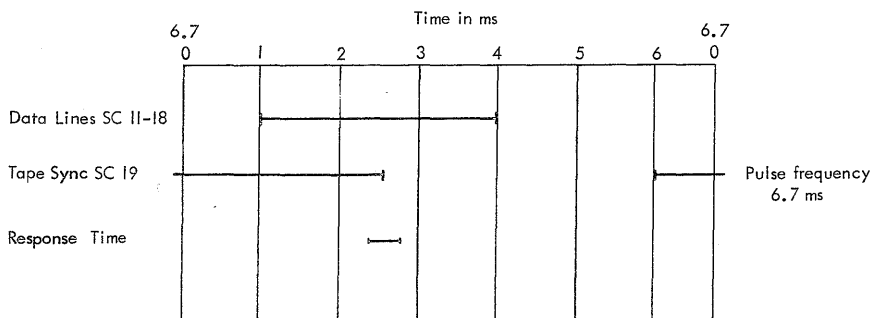

Figure 10. 1621 Data Read Sequence
data and control signals. Characteristics of the 1621 output data and control lines are summarized in Table 6. The timing sequence for reader output is shown in Figure 10. The following comments apply to the shoe connector lines (SC) listed in Table 6 and in System Diagram 00.00.20.0.
SC 19 +S Tape Sync Exit. This line determines the response time on a read paper tape. The pulse must end in the center of the data information pulses. Figure 10 shows the nominal timing involved. SC 11-18 are illustrated as the worse case timing of the data lines, i.e., the last line to go plus and the first line to go minus. This condition can be scoped at DIDI4E, System Diagram 01.80.30.1. The level will be inverted. With a suitable tape being read and DIDI4E displayed on the scope, SC 19 Tape Sync will be observed to end in the center of the worse case data line pulse.